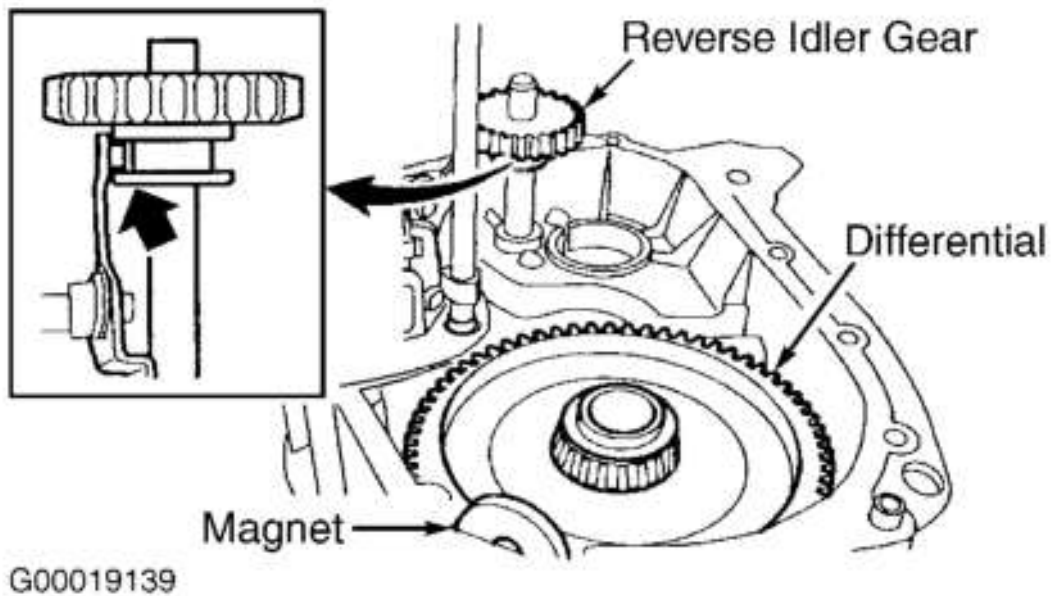

Fig. 23: Installing Reverse Idler Gear
2. Install reverse idler gear as shown. See **Fig. 23** . Install differential and permanent magnet.